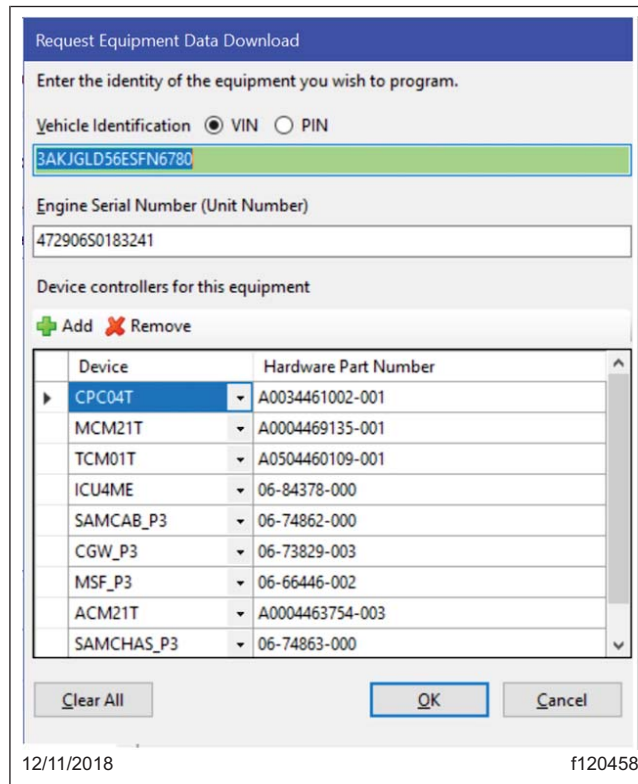

Fig. 15, VIN and Hardware Number Verification
12. Make sure the correct VIN and hardware is populated, then select 'OK.' See Fig. 15.